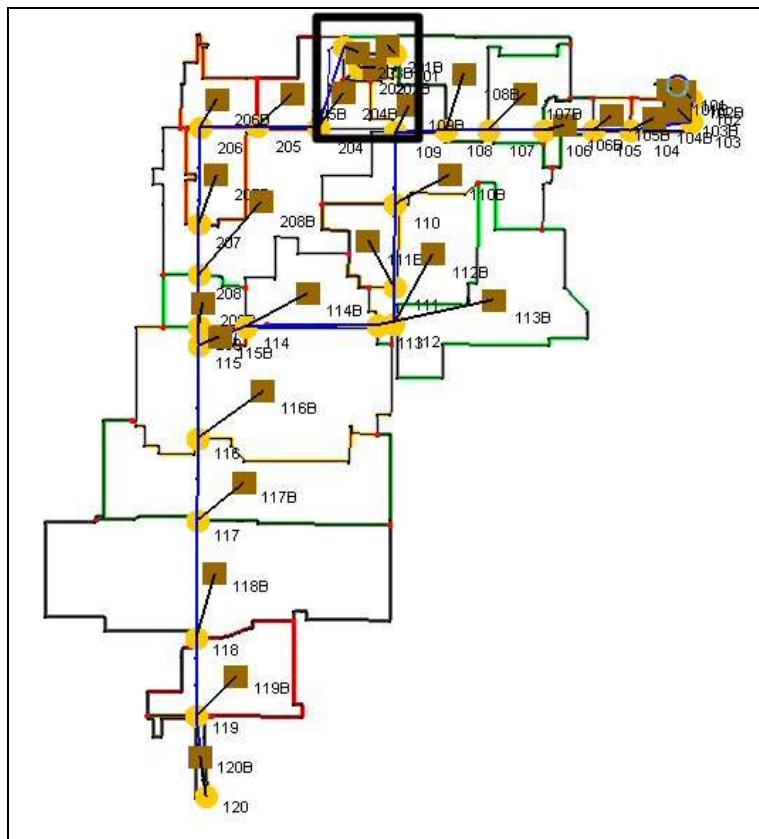

Figure 4 Zoom to second initial sub-area
11. Use the **Zoom**  tool to zoom in to the area shown in the upper middle portion of Figure 4.